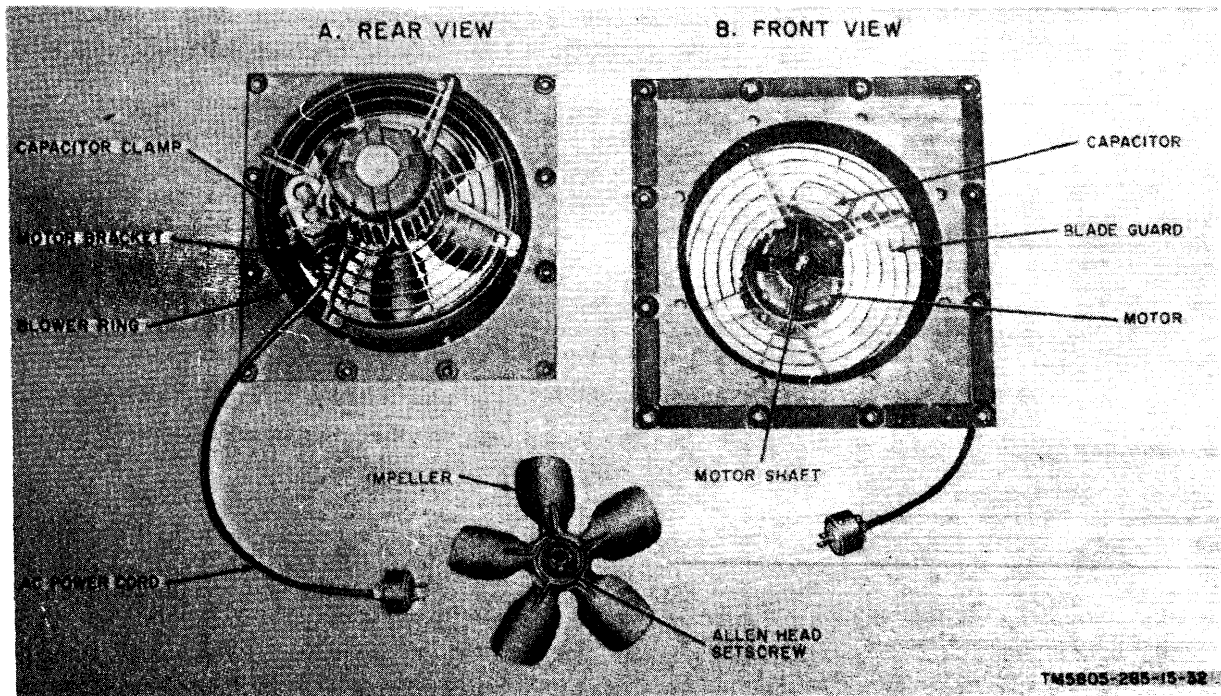

Figure 4-1. Exhaust blower, disassembled.
- (1) Slide the heater onto the mounting base so that it engages the flanges.
- (2) Tighten the four turnlock fasteners.
- (3) Replace and tighten the mounting base knob.
*a.* Operate the blower switch to OFF (fig. 4-1).
(fig. 4-1).
- (1) Loosen the capacitor clamp screw.
- (2) Remove the power cord clamp from the motor bracket.
- (3) Slide the capacitor out of the clamp.
- (4) Tag and disconnect the motor leads and the power cord from the capacitor terminals.
- (5) Connect the motor leads and the power cord to the replacement capacitor (fig. 4-1).
- (6) Slide the capacitor into the clamp and tighten the screw.
- (7) Replace the power cord clamp.
- (1) Remove the capacitor from the clamp (b(2) through (4) above).
- (2) Disconnect the power cord leads from the capacitor and motor leads.
- (3) Connect the new power cord to the capacitor and motor leads (fig. 4-1).
- (4) Slide the capacitor into the clamp and tighten the screw.
- (5) Replace the power cord clamp.